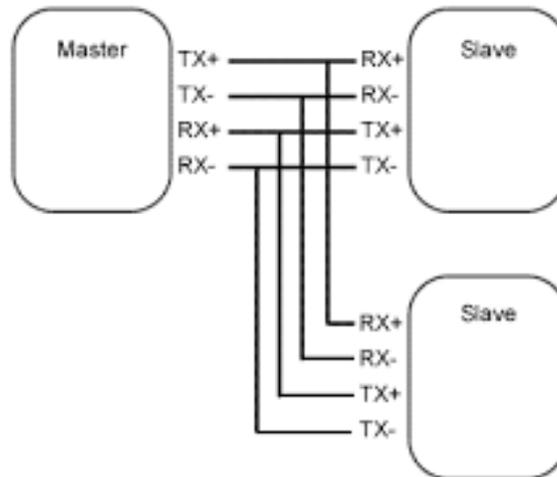

Figure 6 4-Wire RS485 Wiring diagram
- Multiple LM P RS485 devices can be connected with 4-wire RS485 is shown in figure 6.